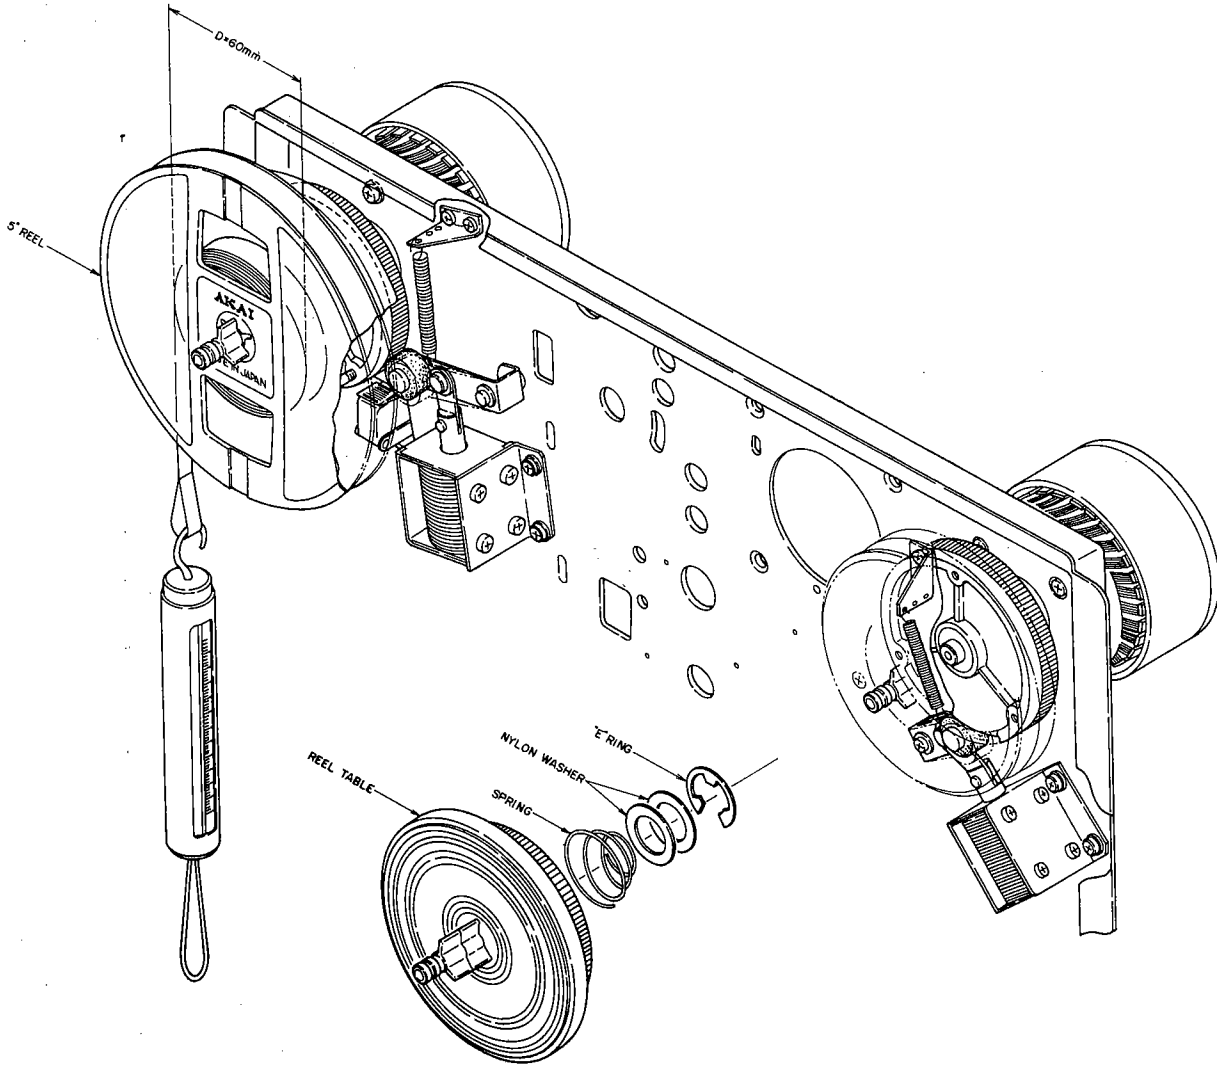

Fig. 5
- 2) In case Brake Tension adjustment is necessary, adjust tension by increasing or decreasing the number of nylon washers (Fig. 5).